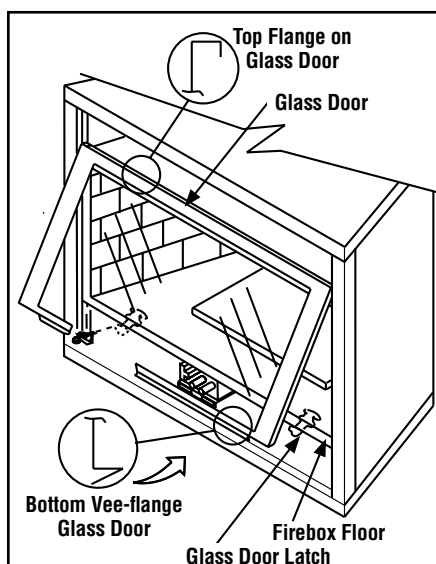

Figure 54 - INSTALLING GLASS DOOR
Removing Glass Enclosure Panels (see Figure 54)
Installing Glass Enclosure Panels (see Figure 54)
2. Position the glass enclosure panel in front of the firebox opening at a 45 degree angle and engage the top flange over the lip at the top of the firebox opening. **See Figure 54.**